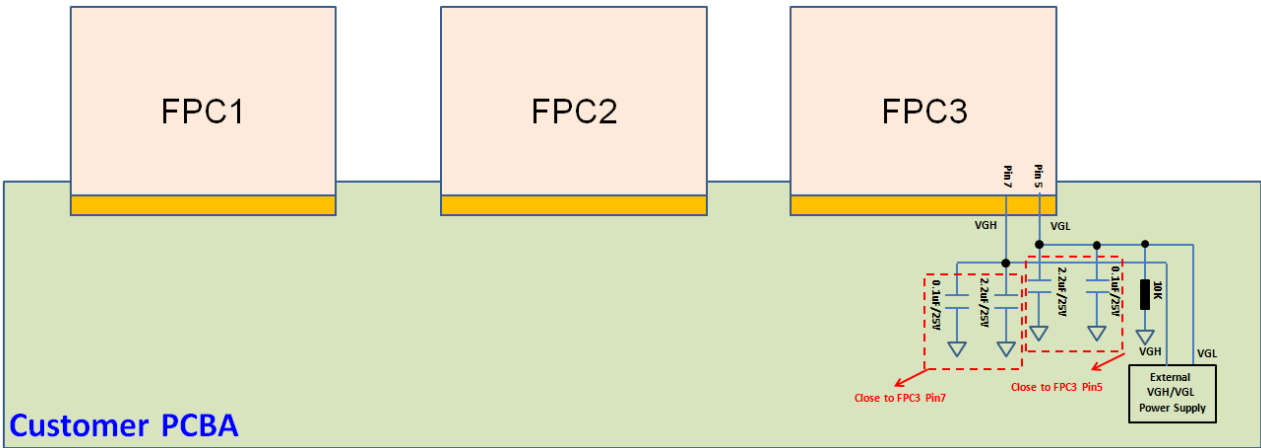

Figure 9: Cascade design with external Power Supply (VGH/VGL)
- (1) The VGH/VGL voltages are provided by external power (Figure 9);
- (2) The capacitors of VGH/VGL need to be as close to FPC as possible (Figure 9);